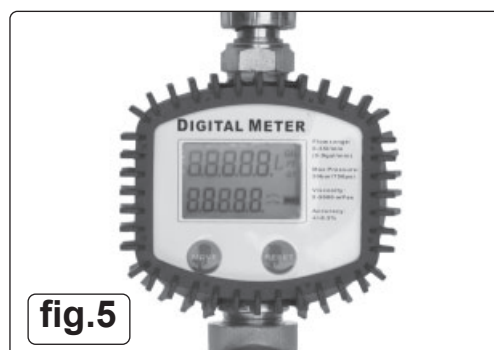

fig.5
- 5.2.1. User Buttons (fig.5)
- Area 2 in fig.5 shows units